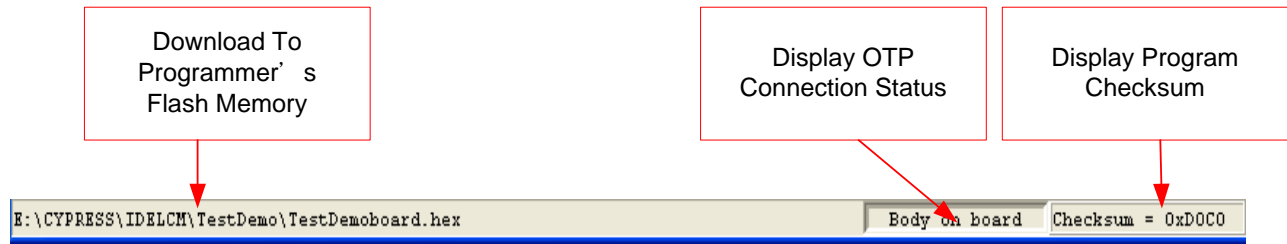

Figure 4-10
3. After assemble completed, Hex filename and Checksum will display in underneath part, as Figure 4-10 illustrated.